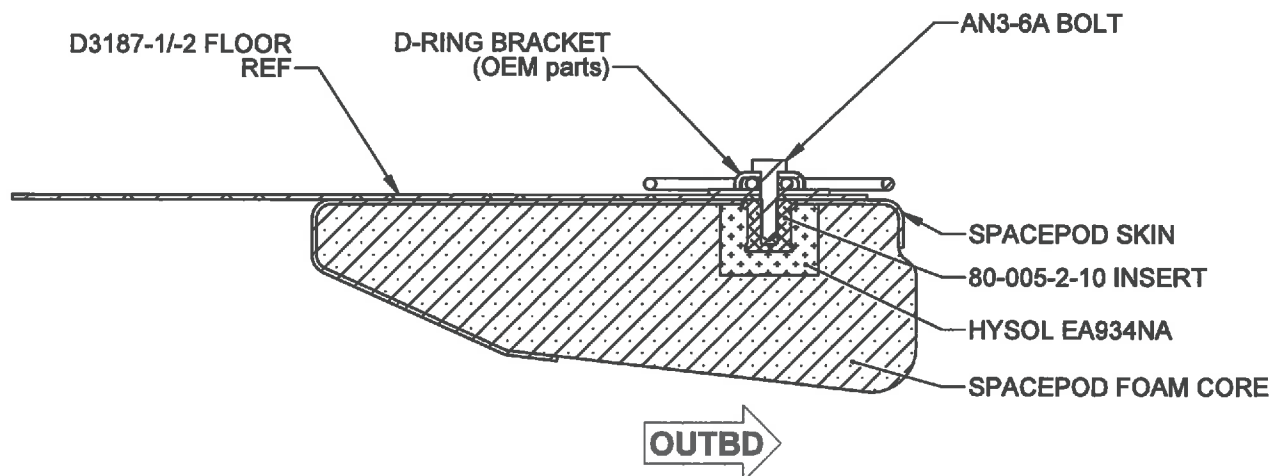

FIGURE 2: SECTION A-A
- 2.5 Using the $\varnothing 0.201$ " holes as pilot holes, drill $\varnothing 0.565$ " holes into the Spacepod composite floor (do not score the far side of the sandwich material). Route the material under the hole and clean out the foam core material to at least 0.25" all around the hole, as shown in Figure 2. (Suggestion: a hex head wrench chucked into a slow speed drill makes this step easy and uniform)